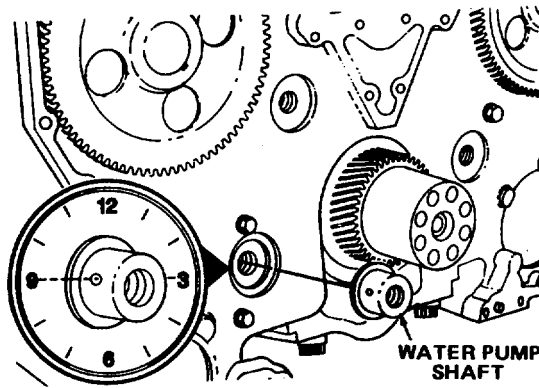

FIGURE 4-76. Water Pump Shaft Alignment.
- (1) Remove camshaft idler shafts (47).
- (2) Check shafts and cylinder block bore for any indication of movement from the shaft.
- (3) Verify water pump shaft (50) has stayed in alignment as shown in FIG. 4-76. Carefully inspect parts if the shaft has moved.